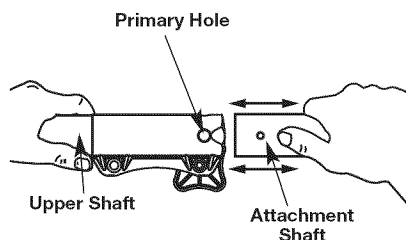

Fig. 3
2. While firmly holding the trimmer attachment or other attachment, push it straight into the Convertible™ coupler until the release button snaps firmly into the primary hole (Fig. 3).
3. While firmly holding the upper shaft, pull the trimmer attachment or other attachment straight out of the Convertible™ coupler (Fig. 3).